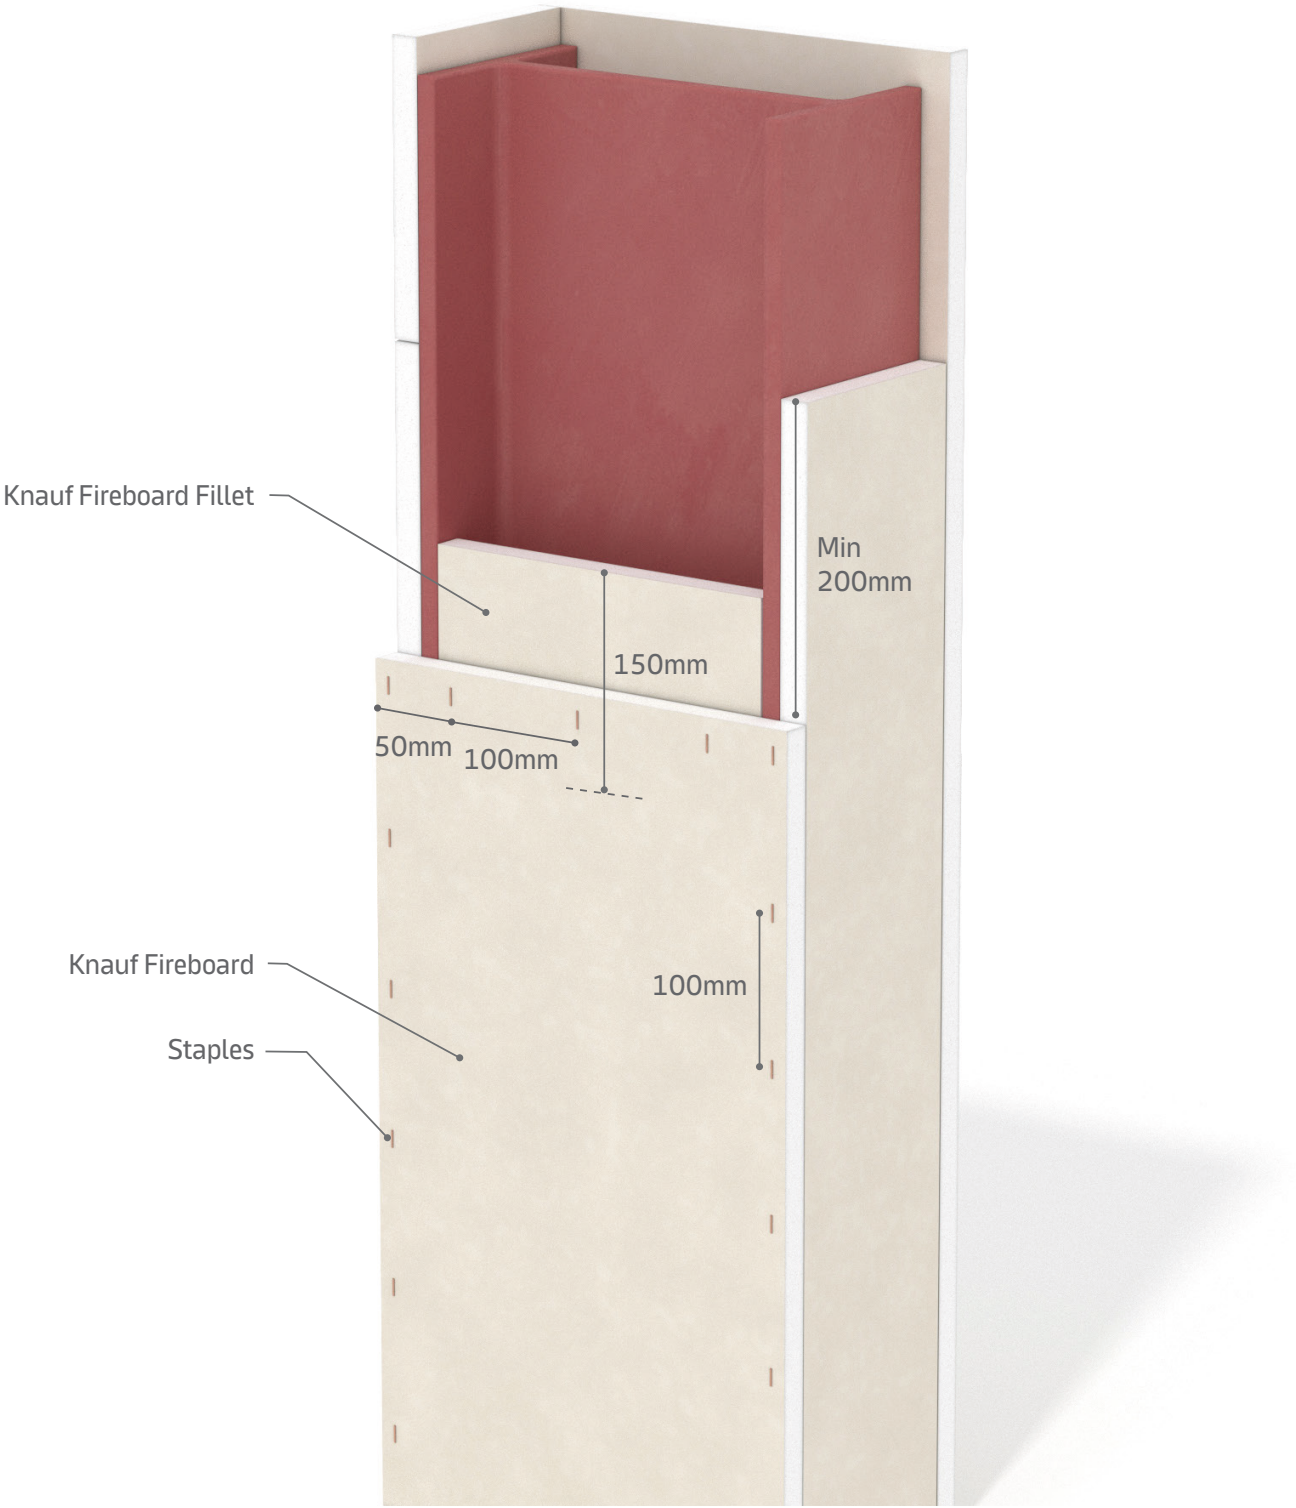
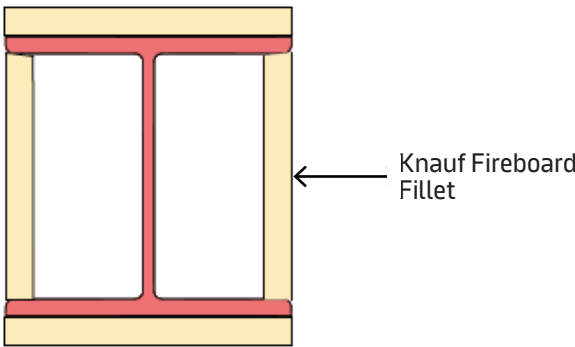

Figure 8: Isometric view of a 4-sided, single layer of Knauf Fireboard protecting Universal Steel Column
Figure 13: Plan view of Universal Steel Column showing location of Knauf Fireboard Fillets
- 2. Before installing Knauf Fireboard to the remaining sides of Universal Steel Column, install 20mm thick Knauf Fireboard Fillets, within the Universal Steel Column as shown in figure 13. These are required to be at abutments, then spaced at 600mm centres and to coincide with horizontal joints. These fillets should be friction fitted into position. The dimensions of the Knauf Fireboard Fillets is 20mm in thickness, 150mm in depth, and a width determined by the inner dimensions of the Universal Steel Column, with an additional 2mm allowance. For ease of installation, the Knauf Fireboard Fillets should have a chamfered edge to ensure they are securely fitted between the flanges of the Universal Steel Column. Refer to figure 8 for the specification and installation guidance of Knauf Fireboard Fillets.
- 2. Before installing Knauf Fireboard to the remaining sides of Universal Steel Column, install Knauf Fireboard Fillets as per figure 13. This to be located at abutments, 600mm centres and coinciding horizontal joints.
1. Before the installation of Knauf Fireboard, Knauf Fireboard Fillets must be friction-fitted between the flanges of the Universal Steel Beam. Refer to figure 8 for specification and installation guidance for the Knauf Fireboard Fillets. These fillets must be installed at equal intervals, with a maximum spacing of 600mm along the length of the Universal Steel Beam. Knauf Fireboard Fillets are required at locations where Knauf Fireboard joints coincide in single-layer Knauf Fireboard solutions. Also install Knauf Fireboard Fillet to abutments.